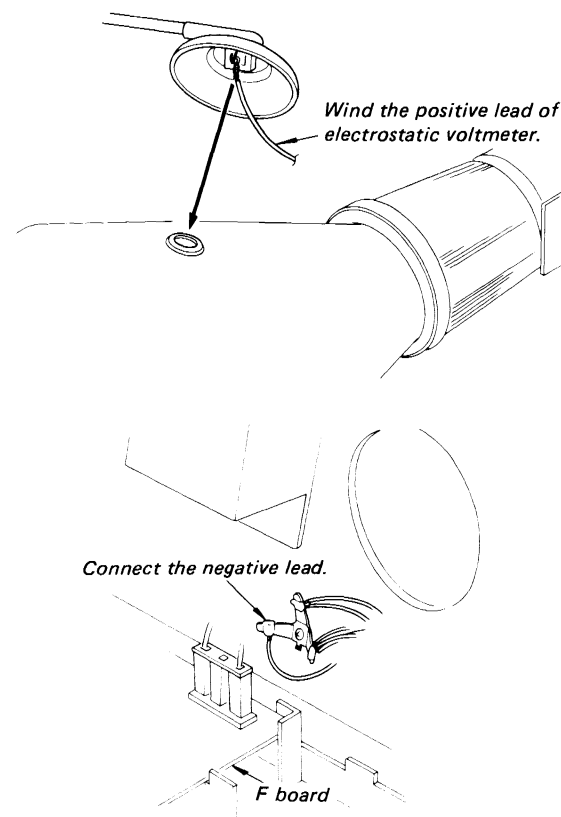

Fig. 4-1
- (1) Confirm that the POWER switch is OFF position.
- (2) Connect the positive lead of the electrostatic voltmeter to the anode of the picture tube and the negative lead to the ground lug on the chassis as shown in Fig. 4-1.
- (3) Feed in a white pattern from a color-bar/pattern generator and turn the BRIGHT and PICTURE controls fully counterclockwise. (Be sure to synchronize the picture).
- (4) Turn the POWER switch to ON and confirm that the voltage on the electrostatic voltmeter is  $26.0\text{kV} \pm 300\text{V}$ .
- (5) If necessary, select R815 and R816 ( $\frac{1}{4}\text{W}$  carbon resistor) and repeat above steps.
- (6) Turn the POWER switch to OFF and disconnect the positive and negative leads of the electrostatic voltmeter.